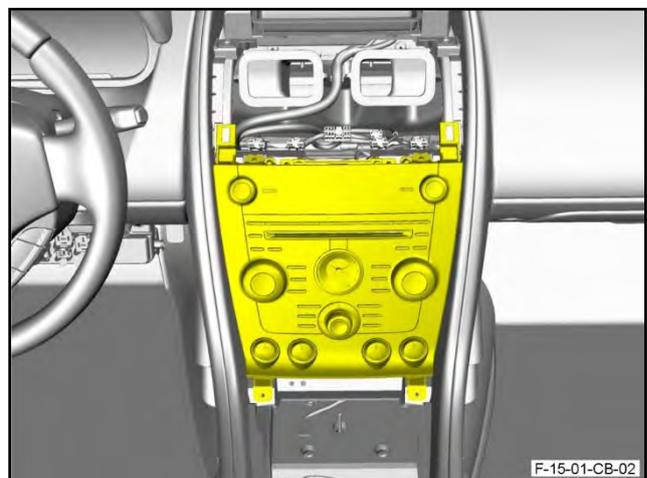

Figure 20
28. Move the centre stack assembly to get access to the electrical connectors (refer to Figure 20).